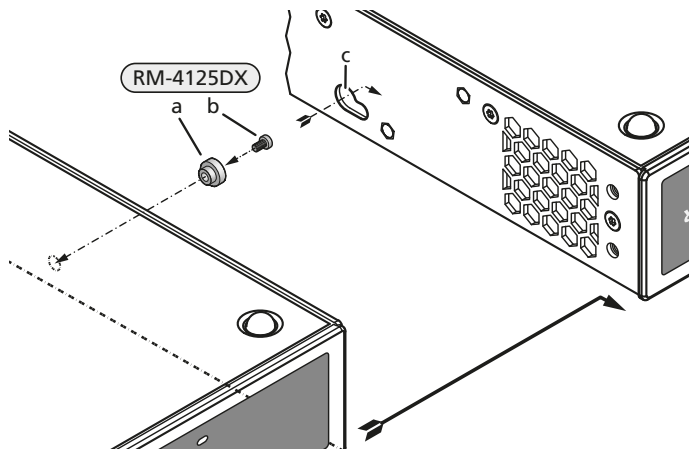

Fig. 6 Installing the stud
- 2) To fit the stud, use the screw (b) to fasten the sleeve (a) to the right side of the left amplifier (fig. 6).